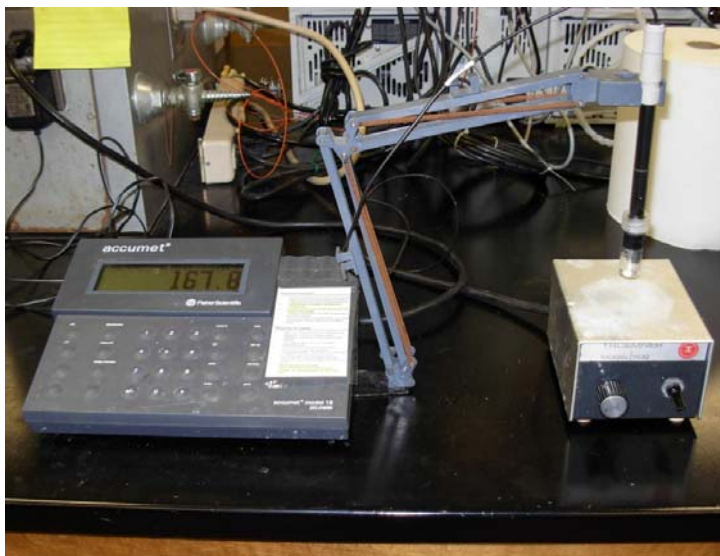
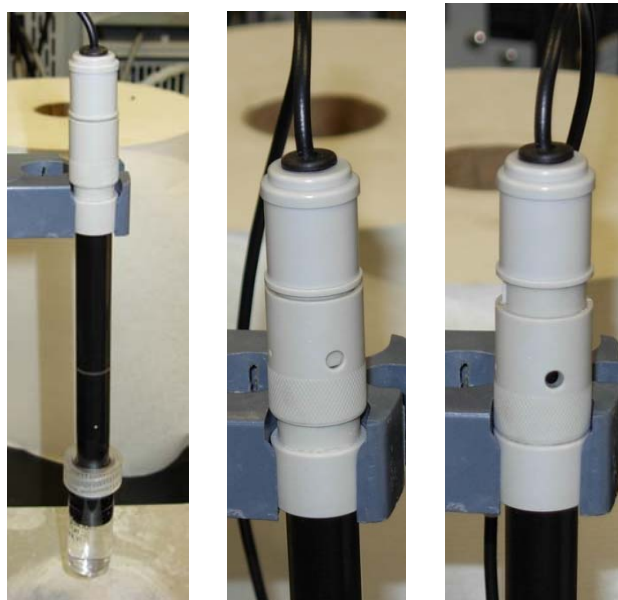

Figure 2. Accumet Model 15 Potentiometer
Figure 3. Chloride electrode (left) with the fill hole closed (middle) and open (right).
- 5.3.2. Remove the combination chloride/reference electrode from the storage vial and set it in the holder. Refer to Figure 2 for a picture of the potentiometer and Figure 3 for an image of the electrode.
- 5.3.3. The bottom of the electrode is a flat crystal surface and must not be touched with fingers (only Kim wipes). Open the fill hole at the top of the electrode. See Figure 3 below.